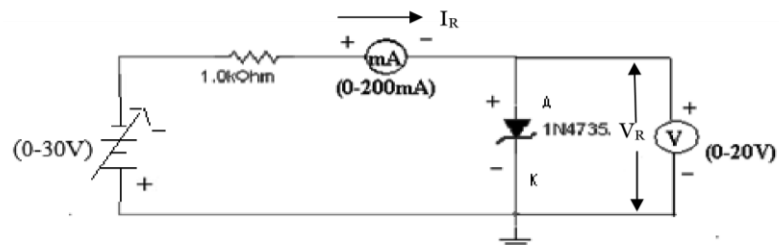

Figure 3: Zener diode in reverse bias
8. Connect the circuit as shown in figure 3.